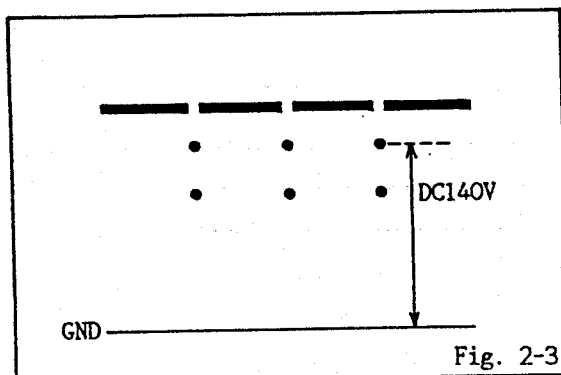

Fig. 2-3
4. Adjust the Screen control until voltage will be DC140V. (Refer to Fig. 2-3)